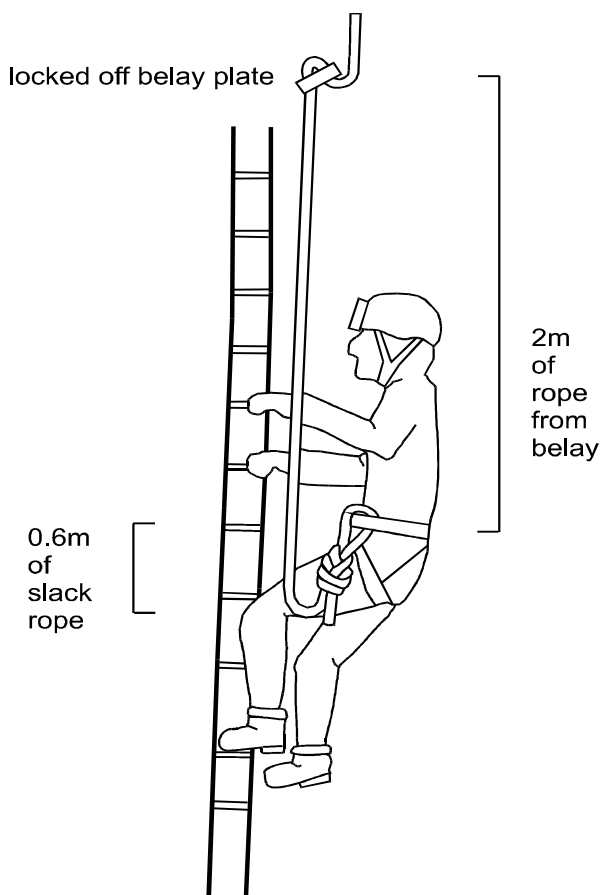

Figure 1: Fall Factor 0.3
The Fall Factor is a measurement of the severity of a fall, and is calculated by dividing the length of the fall by the amount of rope out from the belay (refer to Figure 1).
- impact force must not exceed 6kN (600daN) for a Fall Factor of 0.3 with a 100kg mass (80kg for Type B) for the first drop only. Refer to Figure 1 for an example of a FF0.3;
- The caver is climbing too fast for the belayer to take in (rope around the knees or ankles of caver). Refer to Figure 1